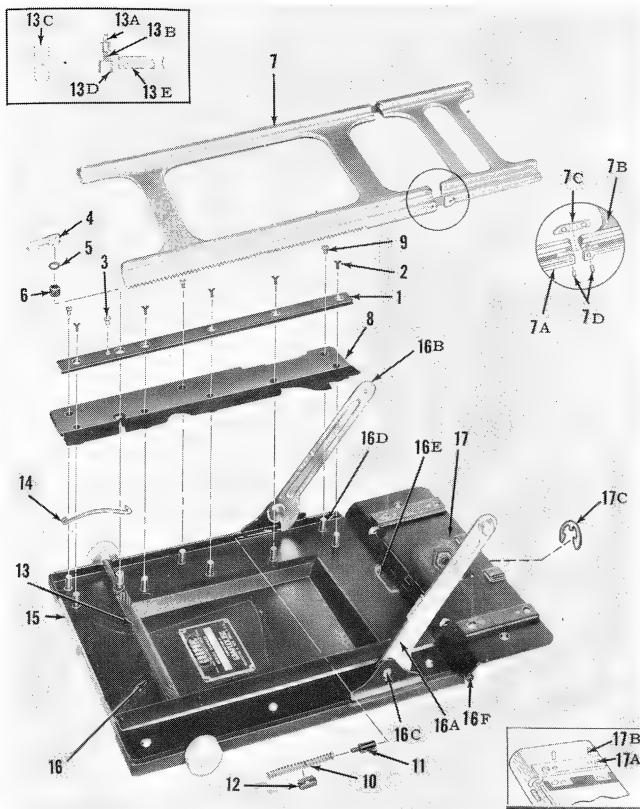
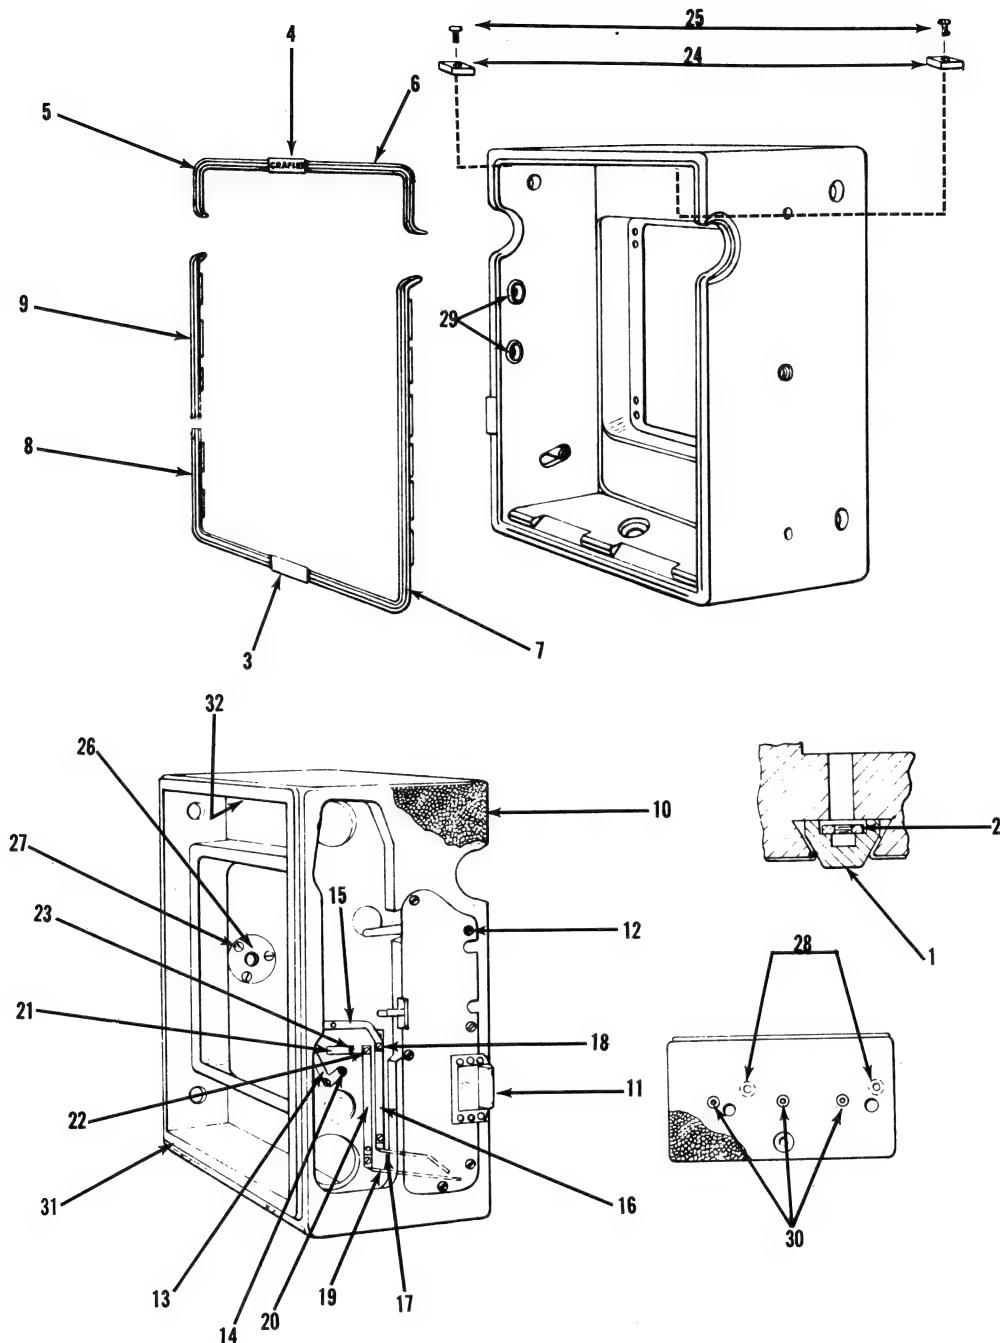

Figure 20. Bed Complete
Figure 21. BODY COMPLETE
##### Key to Figure 20.
c) From the bed hinge, remove two wood screws (38). Remove four yoke guide case screws (39) that are screwed into machine nuts (2, figure 21) located in the case feet (1).
b) Remove the bed section guide (1, figure 20) by removing machine screws (2).
c) Rack the yoke assembly (7) forward until the rear case yoke section is free of the hinge guides. Lift the yoke assembly (7) from the bed.
d) Remove block screws (9, figure 20) from the bed block (8). When the bed block is lifted from its position care should be taken so that the bed brace spring (10) does not throw and lose the bed brace plunger (11).
e) Swing the yoke lock lever (4, figure 20) clockwise so that the special fillister head screw (3) can be removed. Unscrew the yoke lock lever (4). Remove the flat washer (5) and the yoke lock sleeve (6).
g) Lift the pinion assembly (13) from the bed. Do not lose the focusing pinion springs (14) at each side.
**NOTE:** Do not disassemble the yoke assembly (7), the pinion assembly (13), or the bed assembly (15).
a) The case section guide (17A, figure 20) should have the sliding grooves wiped with a film of the above lubricant.
b) Assemble the case section guide (17A) to the hinge assembly (17) by using two dowel pins (17B) in each guide.
a) Position the focusing pinion assembly (13) in the bed with the yoke lock post (13D) on the right hand side. Position the focusing pinion spring (14) at the extreme inside end of the pinion.
Pinion assembly (13, figure 20) should be lubricated by wiping the small diameter of the shaft at each end with a reasonable amount being applied to the helical gear teeth.
The yoke assembly (7, figure 20) should have its guide edges wiped with lubricant and a reasonable amount applied to the gear teeth. Roll the yoke assembly (7) over the pinion assembly (13) to distribute the lubricant evenly and wipe off all excess.
a) To assemble the bed block (8, figure 20) insert the stud of bed brace plunger (11) into the bed brace spring into space provided on the under side of the bed block and hold in position by use of the spring retaining clip (12) that clips around the spring and over the rib on the bottom of the block. Check the position of the focusing pinion spring (14) so that it will fit in the block cavity that is provided. Lower the block into position over the guide and block screw bushings (16D). Be sure that the edge of the leather is tucked in between the block and the bed. Assemble three bed block screws (9).
a) Assemble the right bed section guide (1, figure 20) and attach with five machine screws (2).
b) Insert the yoke lock sleeve (6) and assemble the flat washer (5), if required. This flat washer is a spacer washer that may or may not be needed, depending on the position of the yoke lock lever when it is assembled.
c) Assemble the yoke lock lever (4) and tighten. Note the position and if the lever does not tighten in convenient position it should be removed and the thread started in a different position; it has a triple
d) After the yoke lock lever position has been found to be satisfactory, assemble the special fillister head screw (3).
b) Position the left bed section guide and assemble five machine screws (2, figure 20).
c) With the bed section guide screw (2) loosened on both sides, slide the yoke back so that the case section will partially engage in the case section guide (17A). This will center the front section in relation to the case section. Draw both bed section guides (1) together evenly with the fingers and tighten the guide screws (2) on both sides.
a) Place the bed in position in the camera case and reassemble four yoke guide case screws (39, figure 3) that are screwed into the machine nut (2, figure 21) located in the foot (1). Assemble two wood screws (38, figure 3).
b) Engage each bed brace (16A and 16B, figure 20) with its proper bed brace plate (34 and 35, figure 3). Allow the bed brace arm to slide freely in the slot and assemble the mounting screw in the old mounting hole.
c) Next check the top surface of the yoke assembly (7, figure 20). If the top surfaces of the yoke guide are not level, the front standard will not slide smoothly on the yoke. If necessary, shim the case section guide as follows:
1. Remove the release slide plate (11, figure 21).
2. Remove the right focusing knob escutcheon (51, figure 3) that is held by escutcheon pin (52). Pry up the right moulding (9, figure 21) and the right edge of the lower right moulding (8).
6. Remove six wood screws (12, figure 21) that secure the body release plate assembly (11), and remove the plate assembly.
2. Inspect the short and long switch contacts (17 and 19, figure 21). These contacts complete the focal plane synchronization circuit and are closed by pressure action of the long lever inside the plate that has the insulated spring terminal bushing. If this insulated bushing has become worn so that the lever might make contact with the short switch contact (17) the body release plate assembly (11) must be replaced.
1. Position the body release plate assembly (11, figure 21) and assemble six wood screws (12).
1. To remove the side tripod socket (26, figure 21) it is first necessary to remove the right bed brace plate (35, figure 3) as described in paragraph V.B.2. Remove the three flat head wood screws (27 figure 21) securing the tripod socket.
### Key to figure 21.